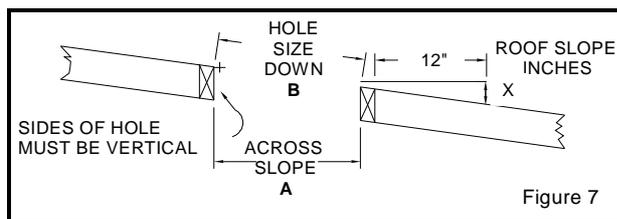

Figure 7
- 1 Situate the chimney in a convenient location as near as possible to the appliance outlet. Cut and frame a hole in the roof for the support. The sides of this hole must be vertical (Fig. 7) (see chart on page 3)